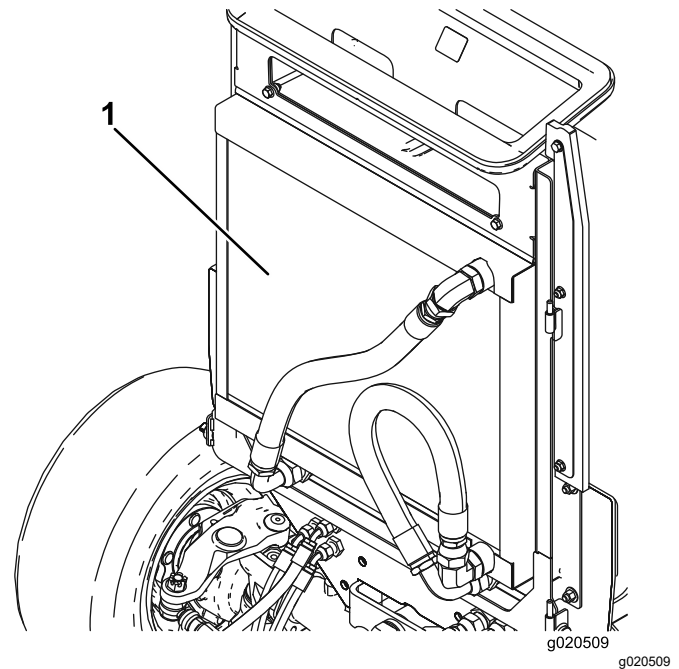

Figure 80
5. Thoroughly clean both sides of the oil cooler and the radiator with compressed air (Figure 80).